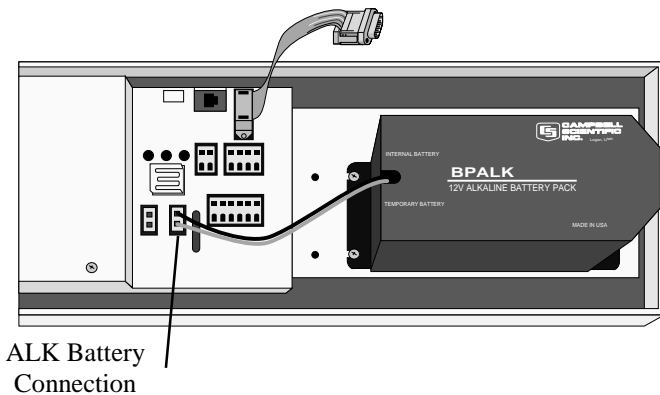

FIGURE 3.1-1. Alkaline Power Mounting and Connections
- a) Alkaline Option: The BPALK houses 8 "D" cell batteries. Install it as shown in Figure 3.1-1. Remove the external circuit board with wire and connector by loosening the 2 Phillips head screws. Discard the external circuit board. Mount the BPALK into the enclosure. To install the battery pack, loosen the thumbscrew and remove the cover. Insert the battery pack and plug the battery lead into the connector labeled "ALK".